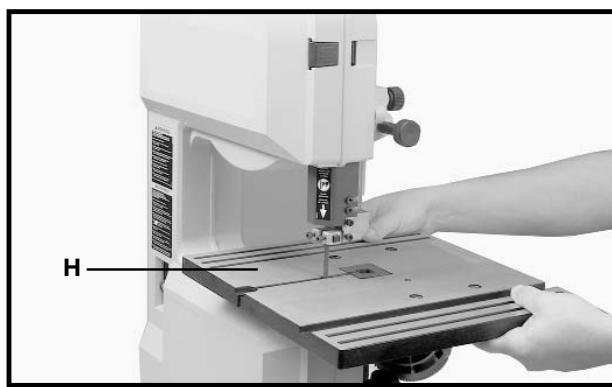
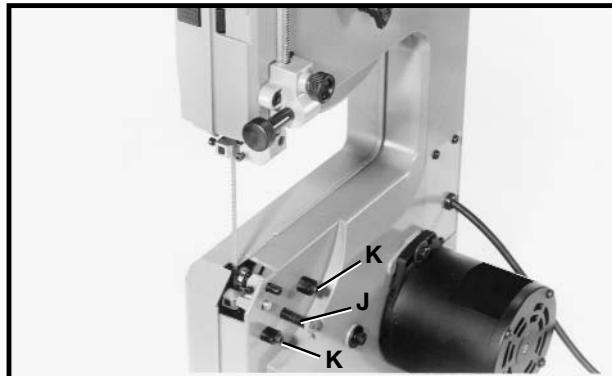
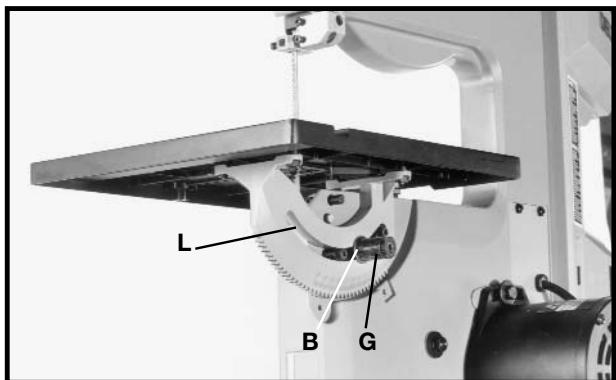
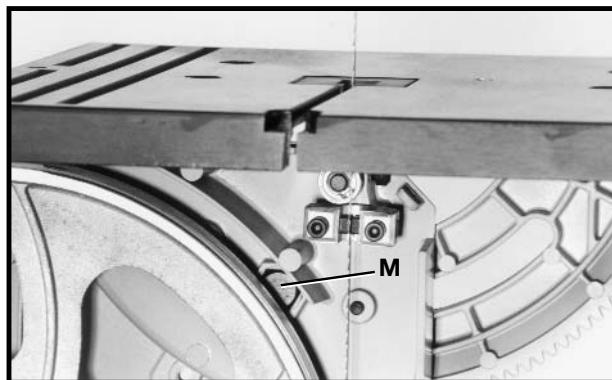

Fig. 5
Fig. 6
Fig. 7
Fig. 8
3. Place table (H) Fig. 5, onto the band saw frame so that stud (J) Fig. 6, and keepers (K) protrude through the slot of trunnion (L) Fig. 7.
5. While pressing in on stud (M) Fig. 8 with a pencil, place an M10 flat washer (B) Fig. 7, onto stud and thread nut (G) onto stud as shown in Fig. 7.